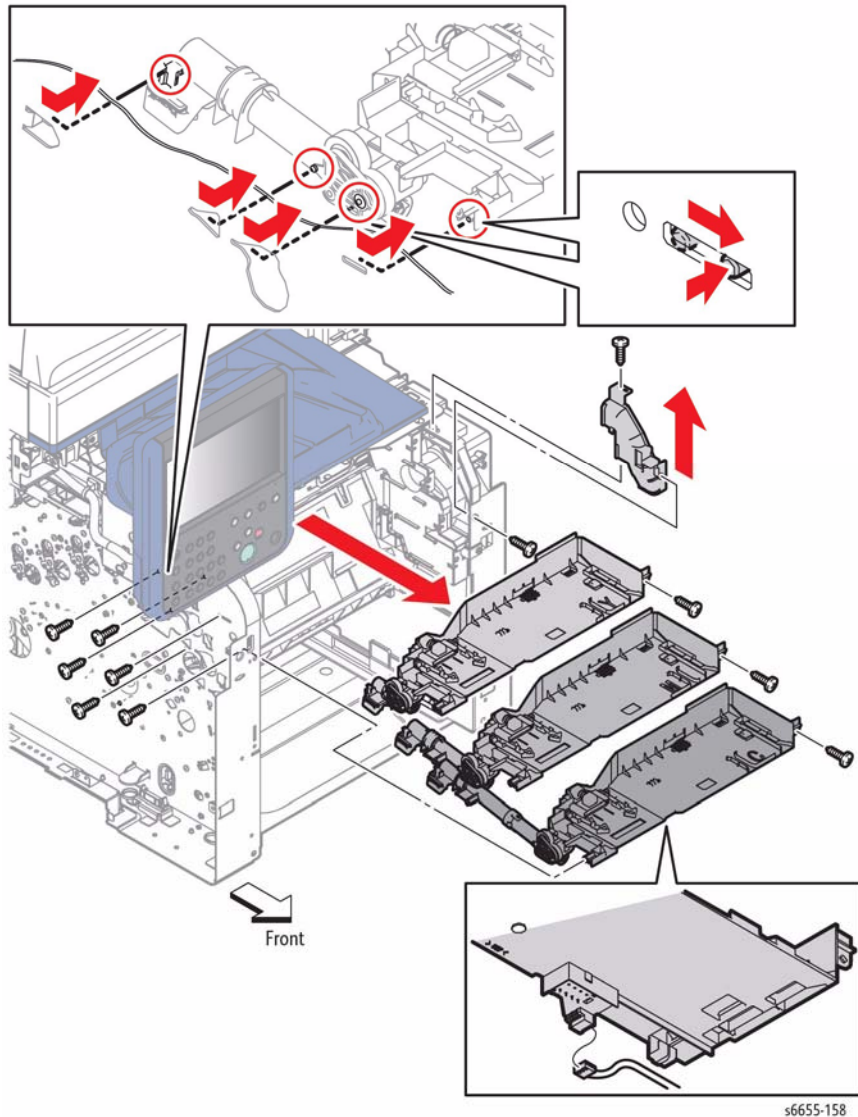

Figure 2 Remove Dispenser Assemblies C, M, and Y
7. Refer to Figure 2 to locate and remove the two screws (silver, tapping, 8 mm) that attach the Frame Duct to the printer and remove the duct.
8. Refer to Figure 2 to locate and disengage the connectors connected to the Dispenser Assemblies in the order of C, M, and Y. Remove the three screws (silver, tapping, 8 mm) that attach each Dispenser Assembly, and pull the Dispenser Assemblies to the front in the order of C, M, and Y while pressing the lug on the left side inward with a screwdriver.